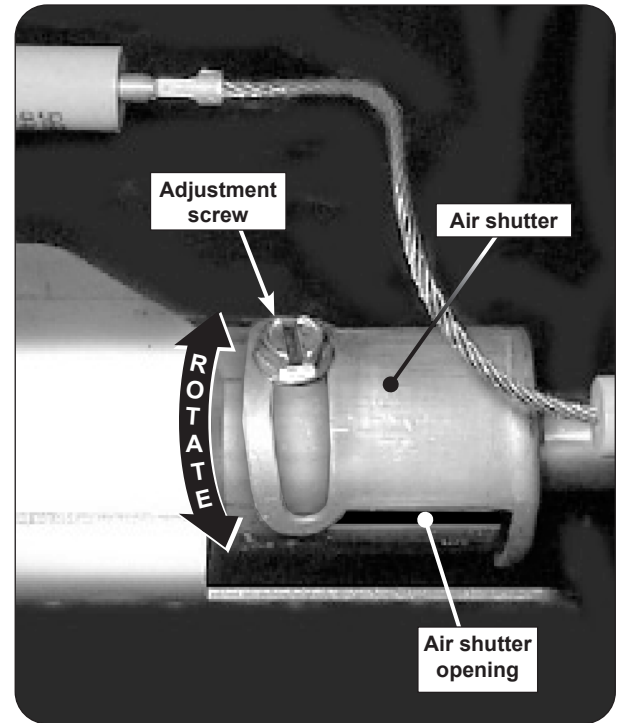

Fig. 43-1 Backburner air shutter adjustment detail
2. Loosen the adjustment screw with a flathead screwdriver, then carefully rotate the shutter to open or close it. See Fig. 43-1 for details.